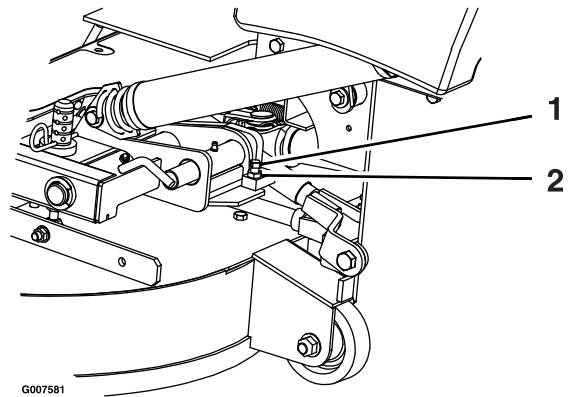

Figure 60
2. Loosen the jam nut and turn the stop screw clockwise until the locking pins is tight and cannot be rotated by hand (Figure 60).